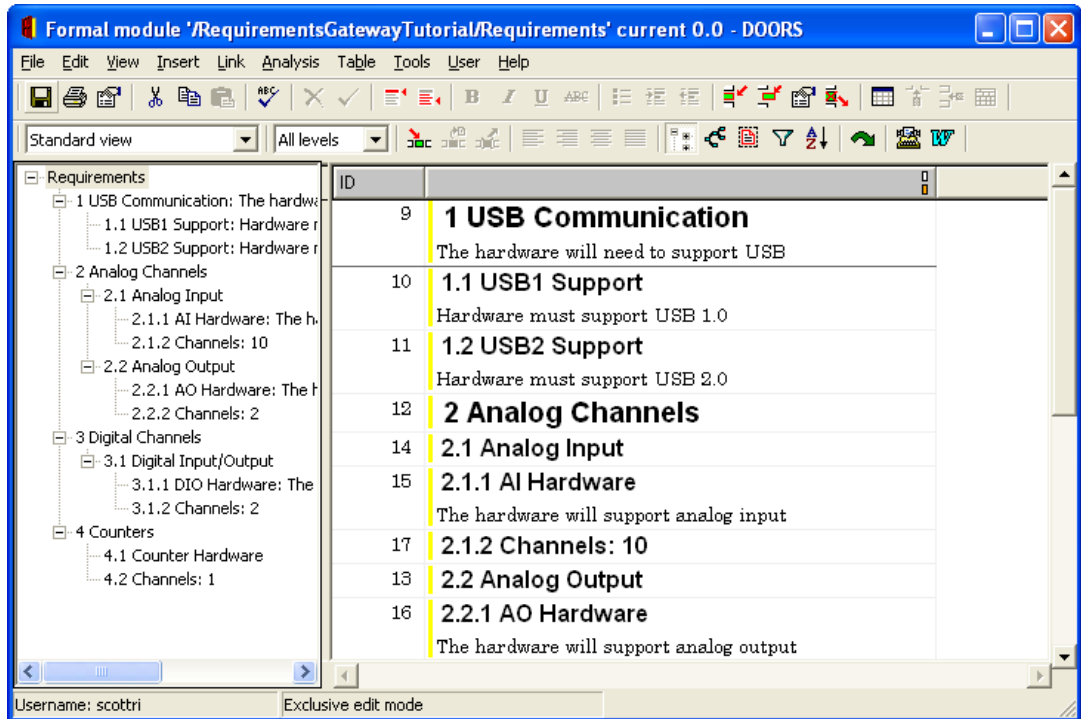

Figure 11-2. DOORS Formal Module Window
7. Double-click the **Requirements** module to open the Formal Module window as shown in Figure 11-2. The Requirements module contains similar information to the text specification document, `ProductSpec.txt`, used in Chapter 3, *Managing Requirements*. The DOORS Advanced type uses attribute values to determine whether an object is a requirement and to specify the requirement identifier.